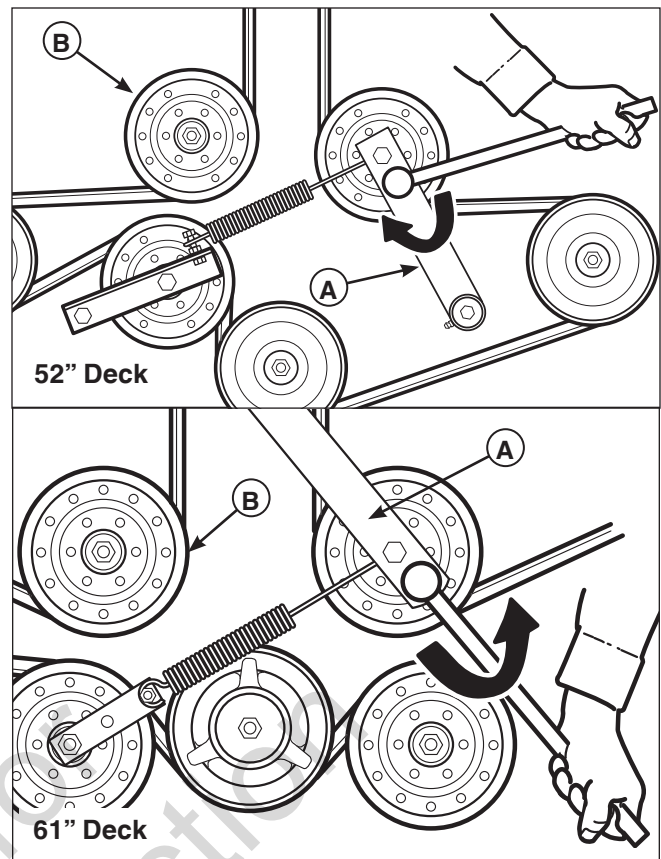

Figure 49. Mower PTO Belt
2. Using a 1/2" breaker bar, place the square end in the square hole located in the end of the idler arm (A, Figures 49). Carefully rotate the breaker bar counter-clockwise, which will relieve the tension on the belt exerted from the idler arm.
3. Slide the drive belt over the edge of the stationary idler pulley (B). Carefully release the tension on the breaker bar until the idler arm stops against the center spindle pulley.
5. Install the drive belt on the PTO pulley, the spindle pulleys and all idler pulleys except the stationary idler pulley (B, Figure 49). Carefully rotate the breaker bar counter-clockwise and install the belt on the stationary idler pulley (B). Carefully release the tension on the breaker bar.